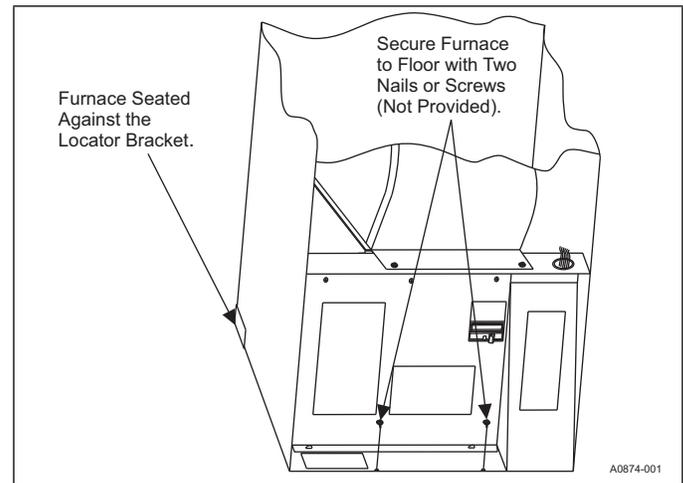

Figure 9: Installation of furnace
2. Secure the front of the furnace with two screws at the provided mounting holes. See Figure 9.